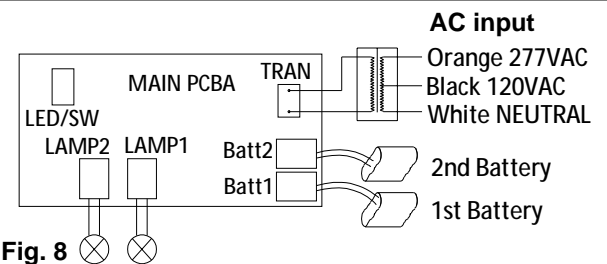

Fig. 8
3. Make proper electrical connections: Connect the battery connector. If using 120VAC, connect the black and white leads to the building utility. If using 277VAC, connect the orange and white leads to the building utility. Cap off any unused wires (refer to Fig. 8).
3. Make proper electrical connections: Connect the battery connector. For 120VAC usage, connect the black and white leads to the building utility. For 277VAC usage, connect the orange and white leads to the building utility. Ensure any unused wires are capped off (refer to Fig. 8).
Wiring diagram (see Fig. 8)